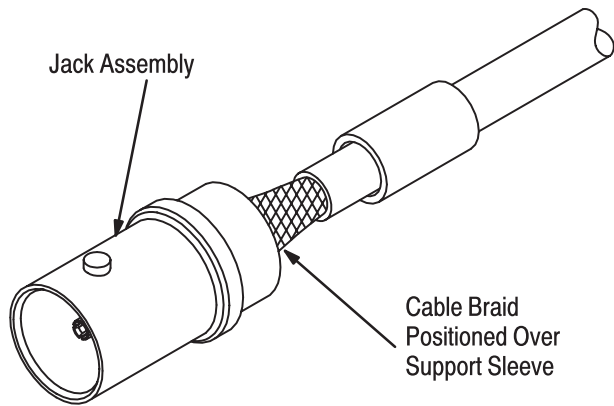

Figure 5
3. Insert the center contact into the jack assembly until it snaps into place. The cable braid must be positioned over the support sleeve of the jack assembly. Gently pull back on the cable to ensure that the contact is held in place by the internal locking feature. See Figure 5.